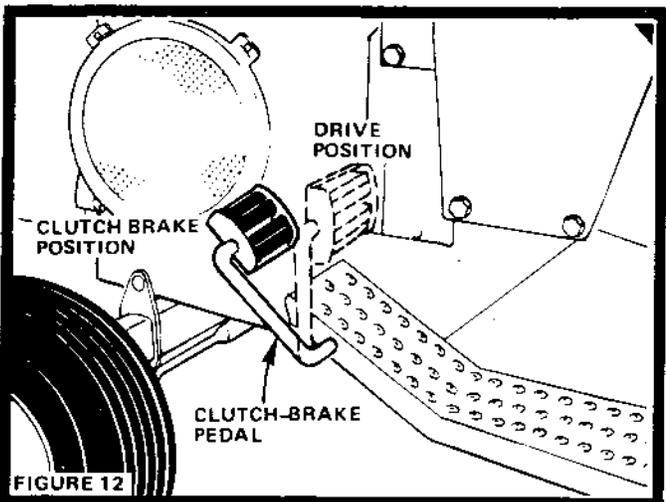

FIGURE 12
5. Push Clutch-Brake Pedal into brake position (Fig. 12).